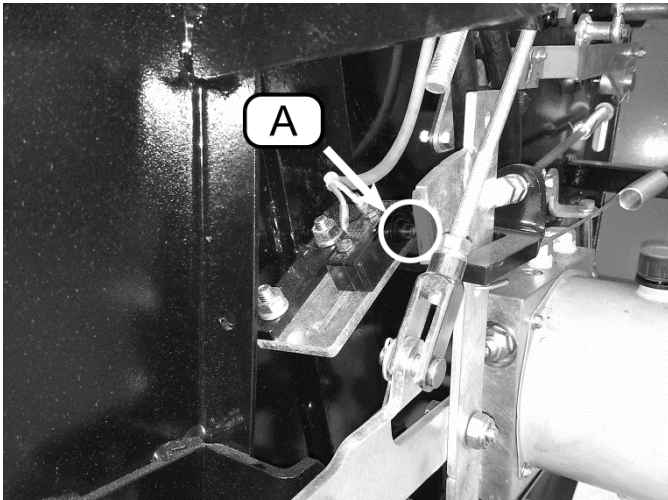

Figure 31 Right side of baler
- Density is controlled by the position of the density sensor (Figure 31, A). The sensor can be mounted closer or further away from the trigger plate (B). Mounting the sensor closer to the trigger plate will sound the bale full alarm earlier and vice versa.